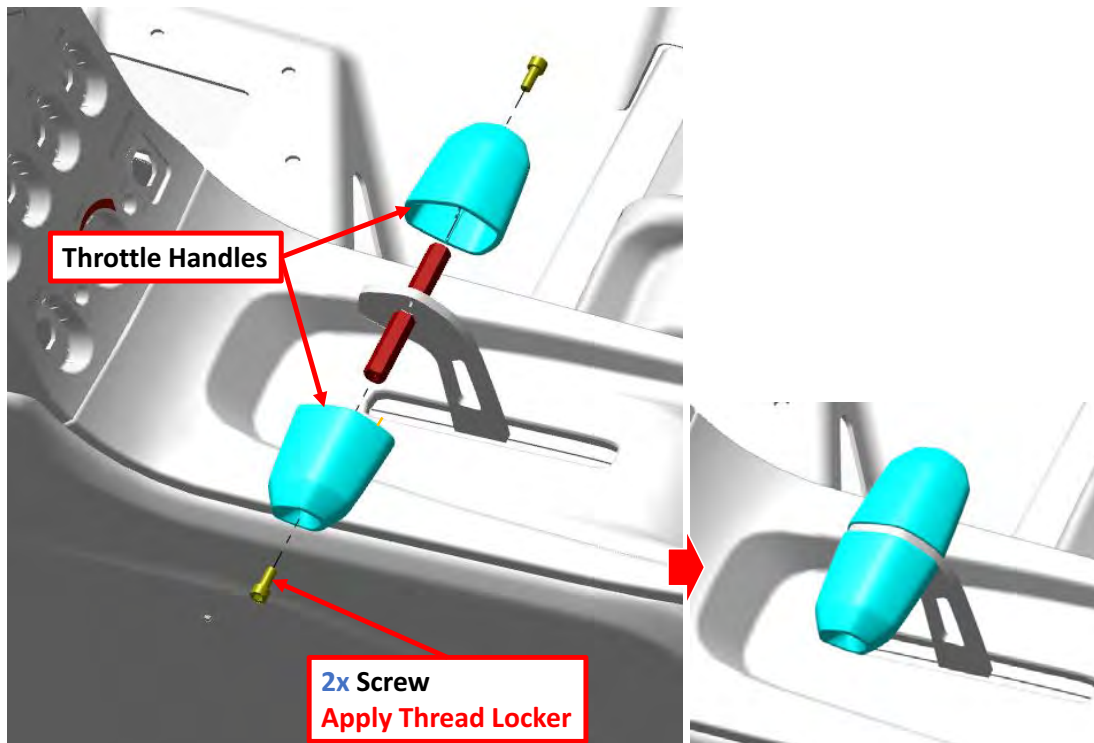

FIGURE 8-7
2. Remove 2X Screws which secure the handle grips using a 9/64 hex wrench. Separate the two halves of the handle to remove it from the throttle lever. Retain all fastening hardware and handle components. See Figure 8-7.
4. Insert left and right throttle handles. Install 2X Screws which secure throttle handles. Apply LOCTITE® 243™ and torque to 7-9 in-lbs. See Figure 8-7.